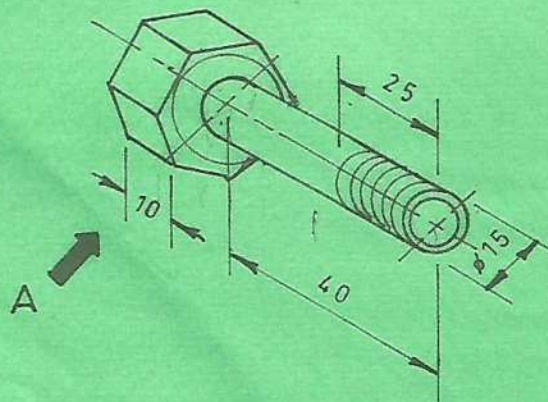

Fig. 2
2. Figure 2 shows a pictorial view of a hexagonal bolt.